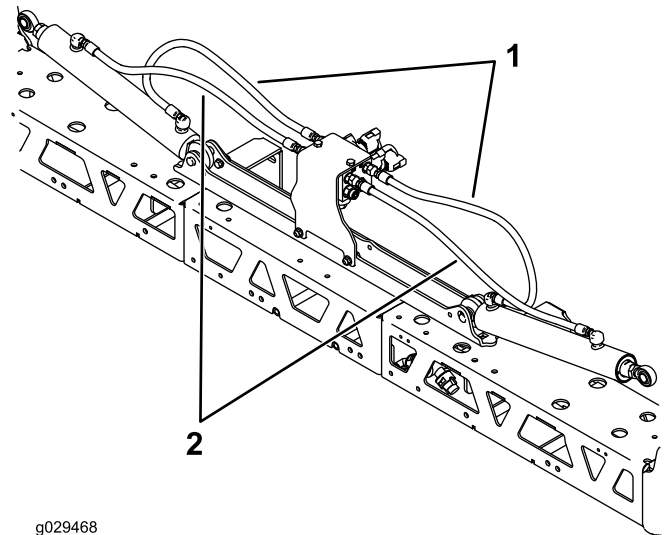

Figure 15
3. Install the hydraulic hoses (Figure 15).